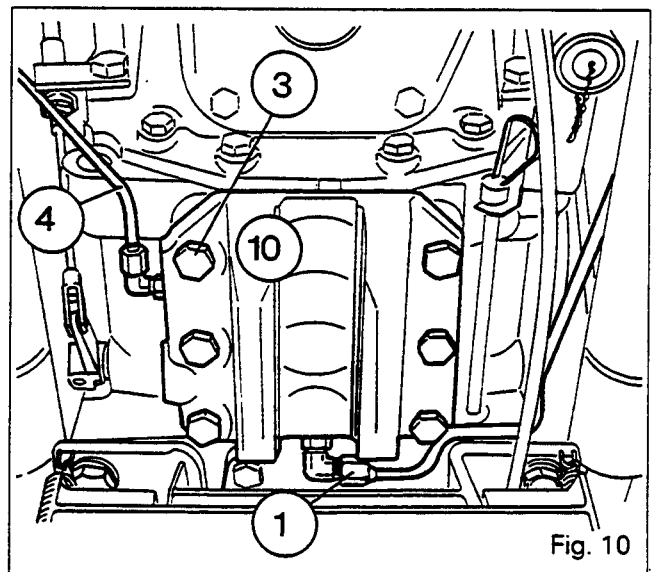

Fig. 10
59. Disconnect the supply tube (1) of the PTO brake (Fig. 10).
60. Disconnect the lubrication tube (4) (Fig. 10).
61. Remove the bolts (3) of the top link support (10) and detach it (Fig. 10).
62. Remove nut (25) and locking screw (24) from fork (26).
80. In the pinion (18), place the spacer (19) and the needle roller bearings (17) and (20). Position the compound pinion assembly (14). Fit the washer (16) smeared with miscible grease (Amber Technical or equivalent).
81. Lightly engage the shaft (23) to hold the washer (16) in place. Fit the washer (21) smeared with miscible grease. Centre the compound pinion assembly (14).
82. Mount the shaft (23) finally in the pinion assembly (14) and in the fork (26), ensuring that the hole of the screw (22) is properly positioned.
83. Smear the screw (22) with Loctite 542. Fit and tighten to a torque of 28-43 Nm.
86. Ensure that the cup (8) is present. Fit and tighten the bolts (3) to a torque of 130-170 Nm (Fig. 10).
87. Reconnect the tubes (1) and (4) (Fig. 10).
88. Refit the screw (24) and the nut (25) on the fork (26).